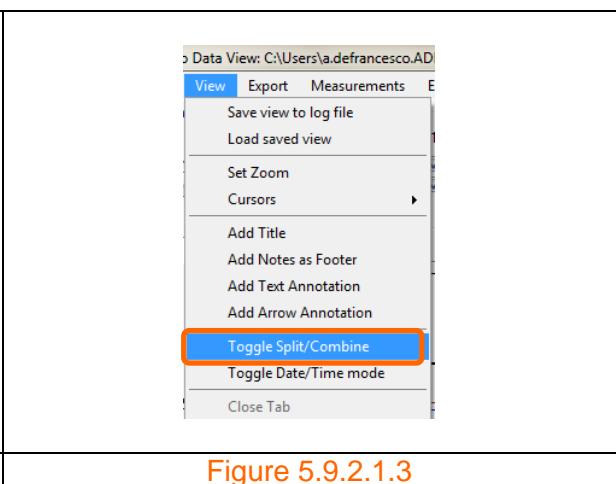

Figure 5.9.2.1.3
Step 2: Hover and click on 'Toggle Split/Combine'. The screen view automatically alters the graphs as shown in figure 5.9.2.1.4.